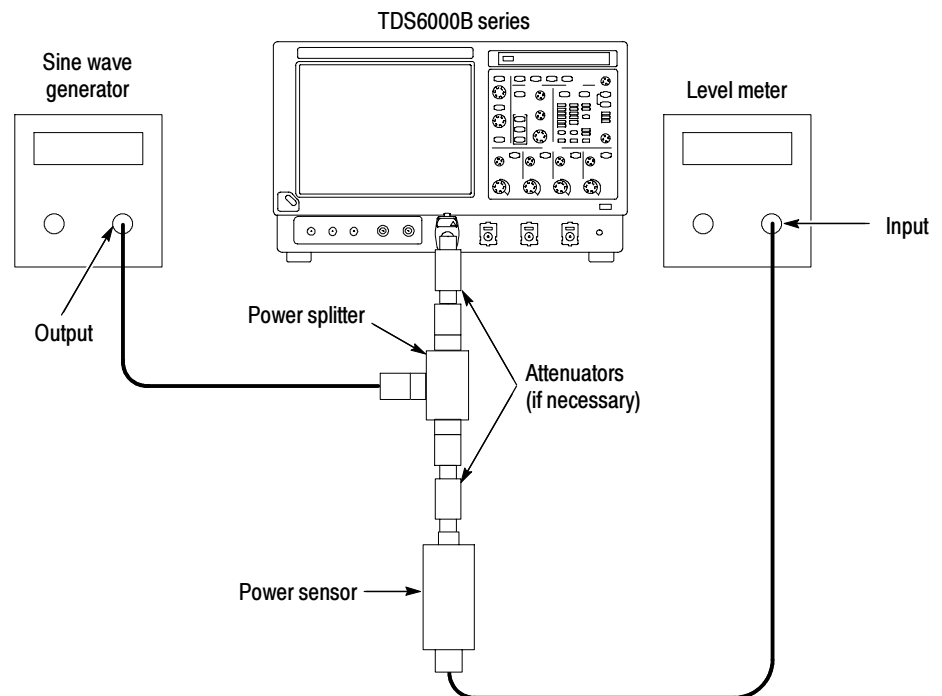

Figure 4-33: Sine wave generator leveling equipment setup
1. *Install the test hookup:* Connect the equipment as shown in Figure 4-33.